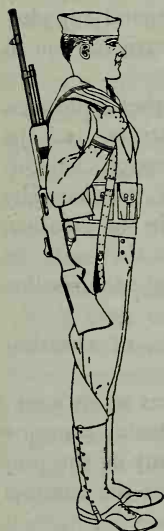

FIG. 40-1—Carrying the automatic rifle.
(1) Normally, the automatic rifle is slung over the right shoulder, butt down, barrel to the rear (see Fig. 40-1). This position is assumed at the command *FALL IN* and during ceremonies and drills.
(2) During marches and field exercises, the automatic rifle may be carried slung over either shoulder.
(3) The automatic rifle is unslung at the command *REST*, unless otherwise ordered. It is reslung as prescribed for drills and ceremonies at the command *Attention*.
(4) At the command *At ease*, automatic riflemen, without unslinging their weapon, assume the position as without arms.
(5) The automatic rifleman does not execute the manual of arms except:
(1) Normally, the submachine gun is slung over the right shoulder, butt down, barrel to the rear (see Fig. 40-1). This position is assumed at the command *FALL IN* and during ceremonies and drills.
(2) For marches and field exercises, the submachine gun may be similarly carried over either shoulder.
(3) The submachine gun is carried unslung at the command *REST*, unless otherwise ordered. It is reslung as prescribed for drills and ceremonies at the command *Attention*.
(4) At the command *At ease*, submachine-gun men, without unslinging their weapon, assume the position as without arms.
(5) The submachine-gun man does not execute the manual of arms except: